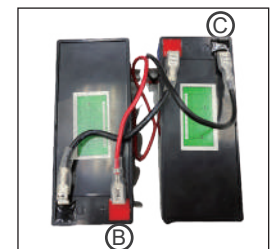

Fig.6
Step 6: Then connect wires (B) and (C), please note that the wire (B) is connected to the positive (+) pole and the wire (C) is connected to the negative (-) pole. (Fig.6)